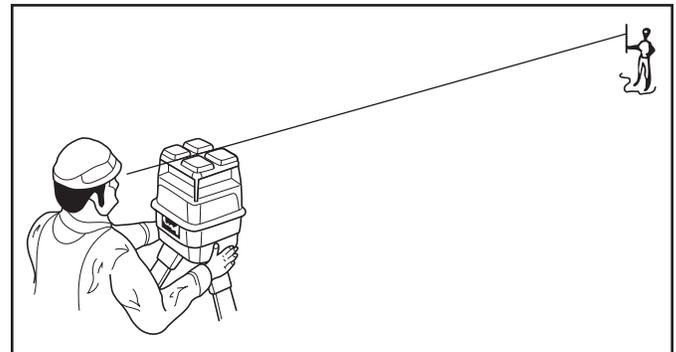

Figure 27. Sight Over Rotating Laser
5. Roughly align one of the axis to the grade stakes by sighting over the top of the rotating laser (Refer to **Figure 27**).